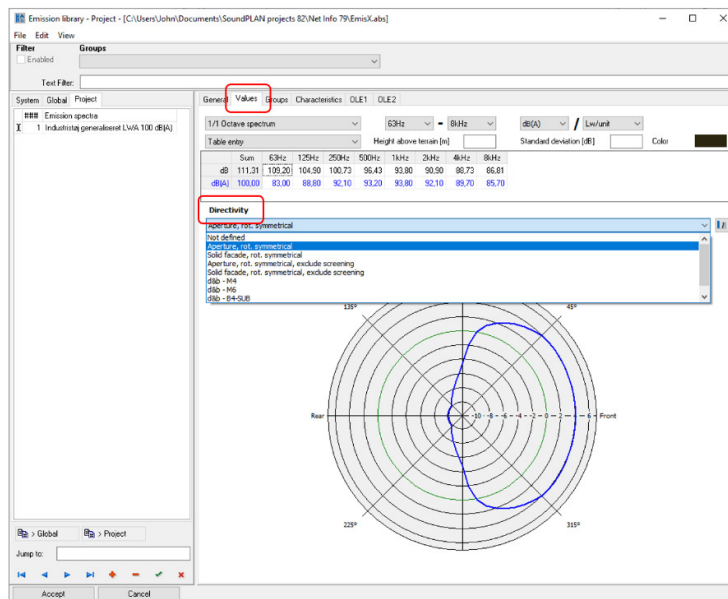

Fig 1 Emission record attached with a directivity
Point, line and area sources can be assigned with directivity (DI). To attach an existing DI record to an emission, pick the DI from the drop-down list on the index card Values of the emission record, Fig 1. How to prepare records in the DI library, see below.